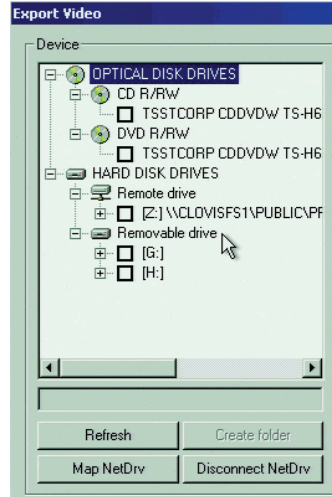

Figure 88. Partial View of the Export Video Dialog Box
- e. Wait while the DX8100 prepares the JBOD drives for video storage. The PDB Create dialog box appears (refer to Figure 88 on page 82).
2. Click Export . The Export Video dialog box opens (refer to Figure 88).